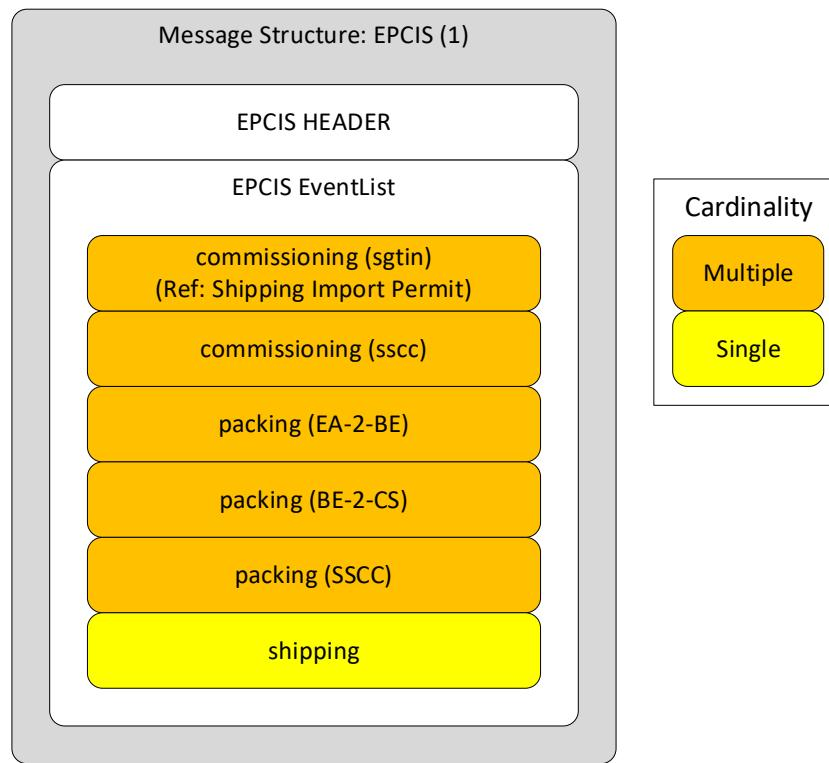

Figure 6 Local Manufacture EPCIS Message Structure
The order of the aggregation events must follow the top to bottom sequence shown in Figure 6.
- 6. All events in EPCIS message must be sorted in chronological order and this chronological order must follow the top to bottom sequence of the events in the event list shown in Figure 6. The earliest event time must be the *commissioning* events.
- Figure 6, the EPCIS message sent by the Domestic Manufacturer (or relevant technical representative), for goods manufactured within the UAE for the domestic UAE market.